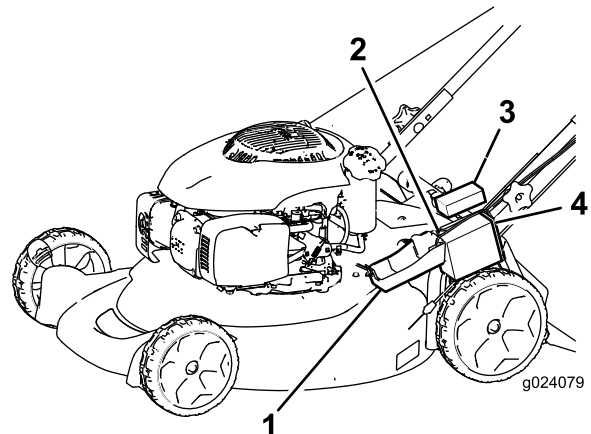

Figure 22
1. Unclip the battery cover and remove it (Figure 22).